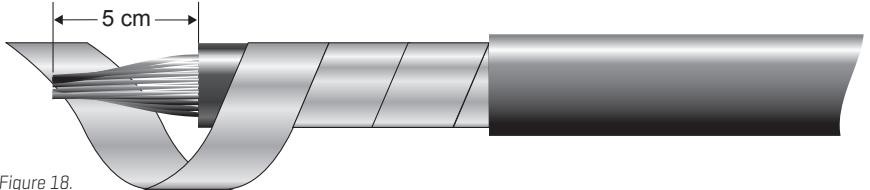

Figure 18.
2. Carefully unwind the copper tape to expose about 7 cm of the sheath underneath. Again, be careful not to damage the copper tape during this process. Measure 5 cm from the end of the cable and remove the black insulation section of the sheath over the aluminium conductors [Figure 18]. Note: There are many valid ways of removing this layer, but it is very important that the aluminium conductor strands are not scored or damaged in any way as this will decrease their strength and may lead to breakage when bending them for insertion into the crimp lug.